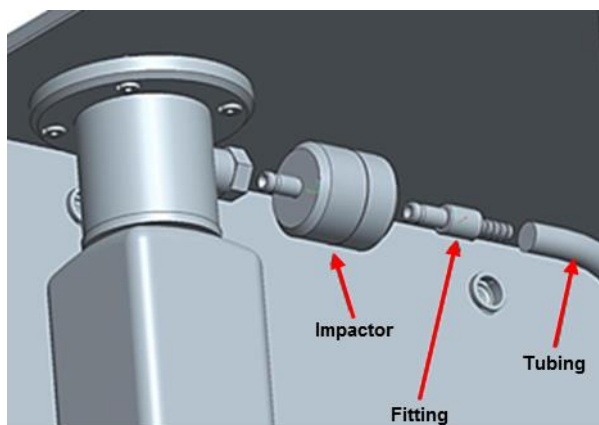

Figure 24: Install Impactor in the Sample Flow
3. Then insert the Inlet Fitting in the other end of the Impactor as shown in Figure 24.